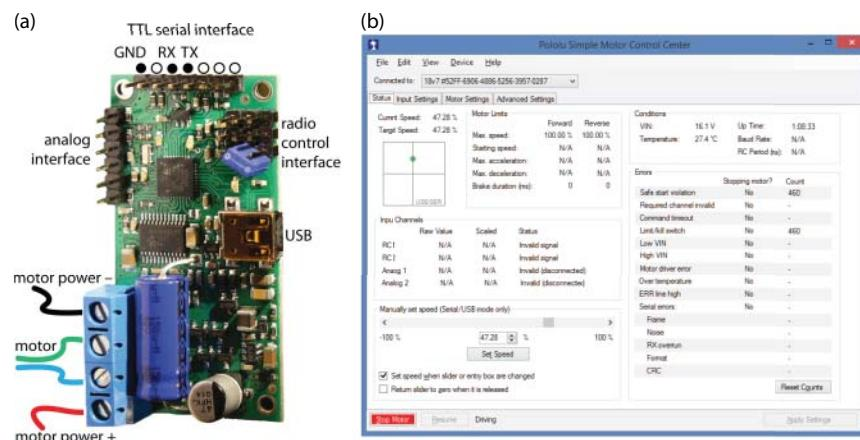

Figure 10-5: (a) The Pololu Simple Motor Controller, and (b) the associated motor configuration tool
The Pololu *Simple Motor Controller* family (\$30–\$55), illustrated in Figure 10-5(a), supports powerful brushed DC motors with continuous currents of up to 23 A and maximum voltages of 34 V. It supports USB, TTL serial, analog, and hobby radio-control (RC) PWM interfaces. The controller uses 3.3 V logic levels, but it is also 5 V tolerant.
Despite its name, this is an advanced controller that can be configured with settings such as maximum acceleration/deceleration, adjustable starting speed, electronic braking, over-temperature threshold/response, etc., which makes it a good choice for larger-scale robotic applications. The controller can be configured using a Windows GUI application, as illustrated in Figure 10-5(b), or by using a Linux command-line user interface. The Windows configuration tool can also be used to monitor motor temperature and voltage conditions and control the speed settings, braking, PWM, communications settings, and so on over USB, even while the motor is connected to the RPi with a TTL serial interface.
The Simple Motor Controller can be configured to be in a serial ASCII mode, whereupon it can be controlled using a UART device from the RPi with minicom. For example, with ASCII mode enabled and a fixed baud rate of 115,200 (8N1) set in the Input Settings tab (see Figure 10-5(b)), the RPi can connect directly to the motor controller and issue text-based commands to control the motor, such as v (version), F (forward), B (brake), R (reverse), GO (exit safe-start mode), X (stop), etc. See the comprehensive manual for the full list of commands (tiny.cc/erpi1003):